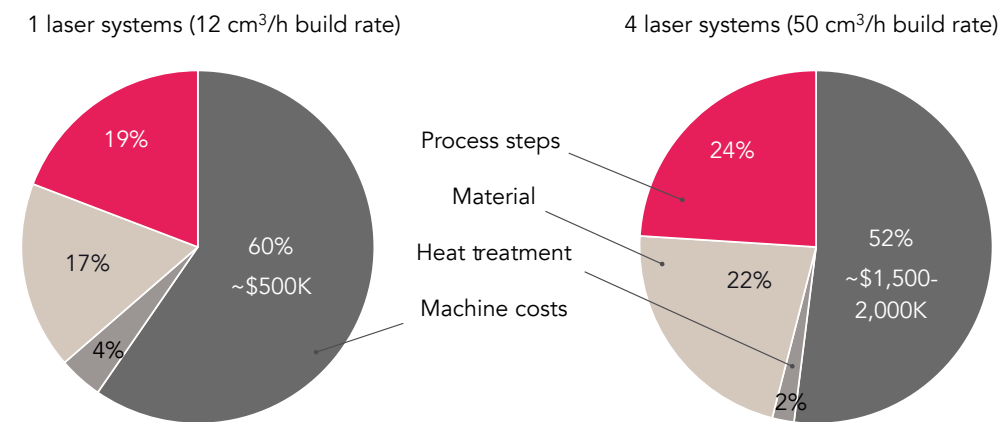

Fig. 5 Process step breakdown in CPP for single (left) and quad (right) laser PBF-LB metal AM machines
From the end-user perspective, the most important factor is the CPP, which is disproportionately dependent on system amortisation. We observe that approximately half the CPP is due to this factor alone, excluding quality control (QC) measures (Fig. 5). This means that the resultant CPP is mostly affected by a lack of machine efficiency, which can be either offset by cheaper machines or higher productivity. In comparison to powder costs, the price sensitivity of individual parts is 2.5x more affected by machine utilisation. Considering that machines are utilised at an AMI of 40%, the CPP can be reduced by 25% from efficiency gains in comparison with savings of 2–4% based on cheaper powder, not including the fact that new powder sources have to undergo costly validation tests and are available to everyone, therefore failing to deliver any competitive advantage.